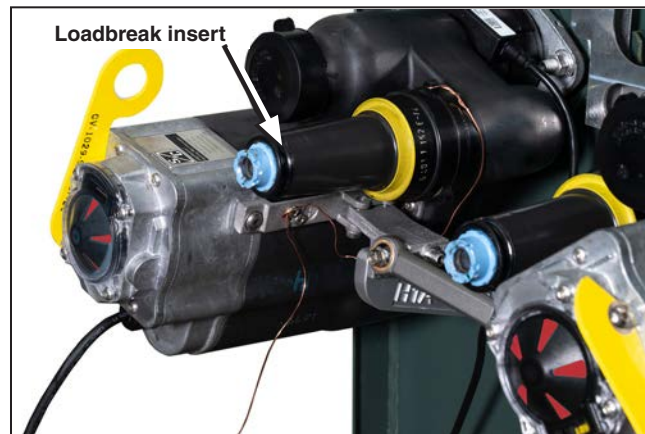

Figure 42. The grounding tab on the loadbreak insert.
- STEP 2.** Connect the drain wire from the tab on the loadbreak insert to the grounding point on the bushing well interrupter. See Figure 42 and Figure 43.
- Make sure the drain wire is properly connected between the loadbreak insert, bushing well interrupter grounding point, and the point on the transformer grounding bus where the elbow is grounded. See Figure 42 on page 28 and Figure 43 on page 28.